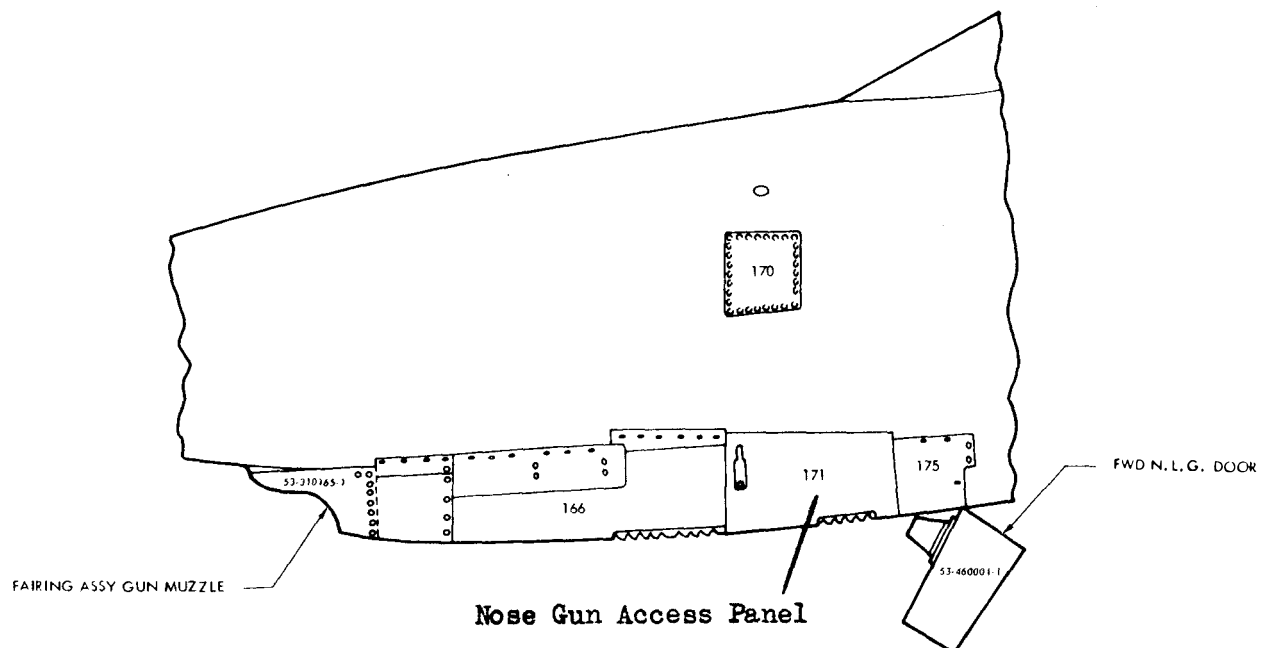

Figure 9-38. Location of Panel 171 for Access to M61A1 Gun in F-4F Aircraft
(2) The F-4E aircraft has an M61A1 gun mounted on the bottom center-line under the fuselage nose section. Access is gained to safe the gun through panel 171 directly forward of the nose landing gear (see figures 9-38, 9-17, and 9-18)